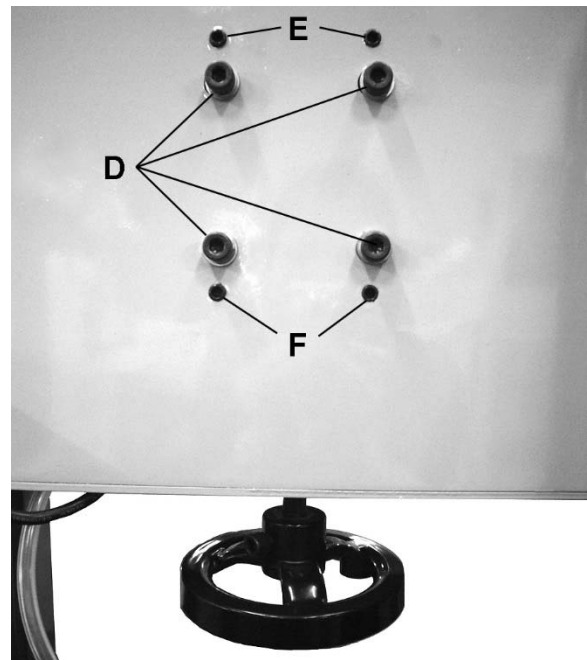

Figure 7
1. Slightly loosen all four socket head cap screws (D, Figure 7).
2. Tighten two top set screws (E, Figure 7) slightly to shift blade toward front. Conversely, tighten two lower set screws (F, Figure 7) to shift blade toward rear.
4. Tighten all four socket head cap screws (D).